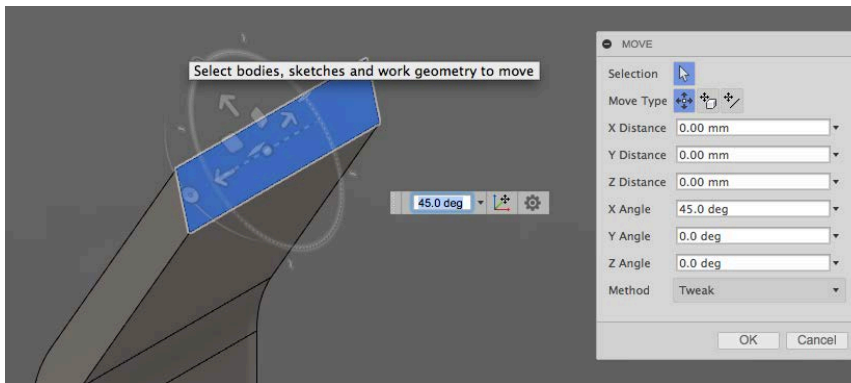

Fig. L11
11. Go to Modify>Move, select the front face of the top of the arm and rotate so that it's perpendicular to the profile (Fig.L11).